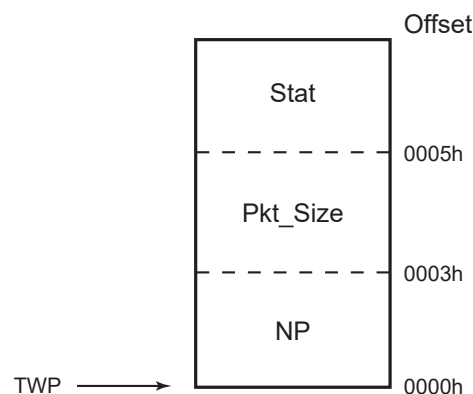

Figure 62. Descriptor Table Entries
The TxDMA module moves the next packet to be transmitted from EMAC memory into the TxFIFO. Whenever the polling timer expires, the TxDMA reads the High status byte from the Tx descriptor table pointed to by the Transmit Read Pointer, TRP. Polling continues until the High status Read reaches bit 7, when the Emac_Owns ownership semaphore, bit 15 of the descriptor table (see Table 178 on page 295) is set to 1. The TxDMA then initializes the packet length counter with the size of the packet from descriptor table bytes 3 and 4. The TxDMA moves the data into the TxFIFO until the packet length counter down-counts to zero. The TxDMA then waits for Transmission Complete signal to be asserted to indicate that the packet is sent and that the Transmit status from the EMAC is valid. The TxDMA updates the descriptor table status and resets the ownership semaphore, bit 15. Finally, the Tx_DONE_STAT bit of the EMAC Interrupt Status Register is set to 1, the address field, DMA_Address, is updated from the descriptor table next pointer, NP (see Figure 62 on page 294). The High byte of the status is read to determine if the next packet is ready to be transmitted.
The descriptor table contains three entries: the next pointer (NP), the packet size (Pkt_Size), and the packet status (Stat), as displayed in Figure 62.